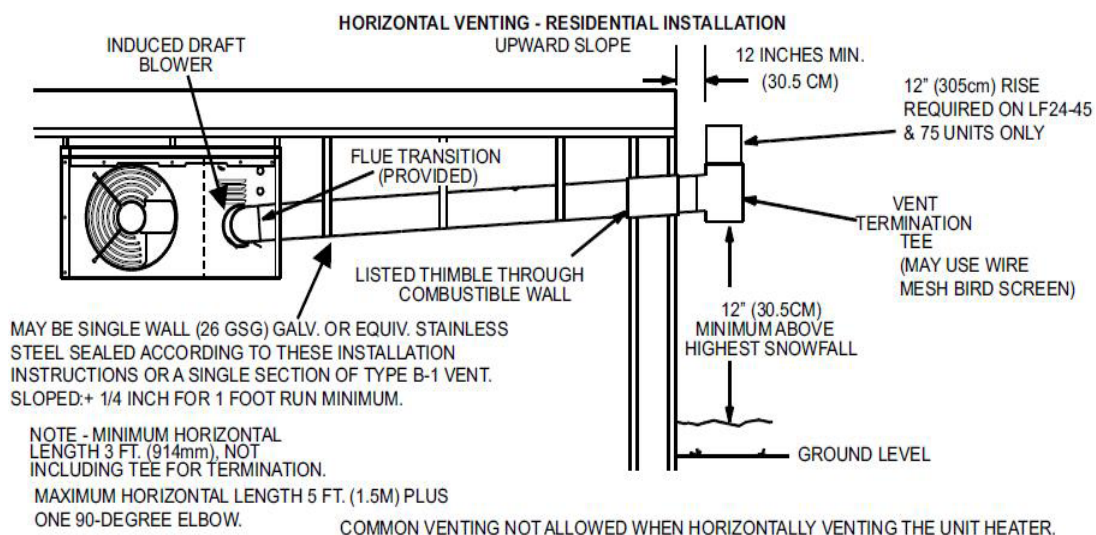

Fig.7
5. Unit models 45 and 75 must terminate with a 12"(305mm) vertical rise at the tee termination. See figure 7.